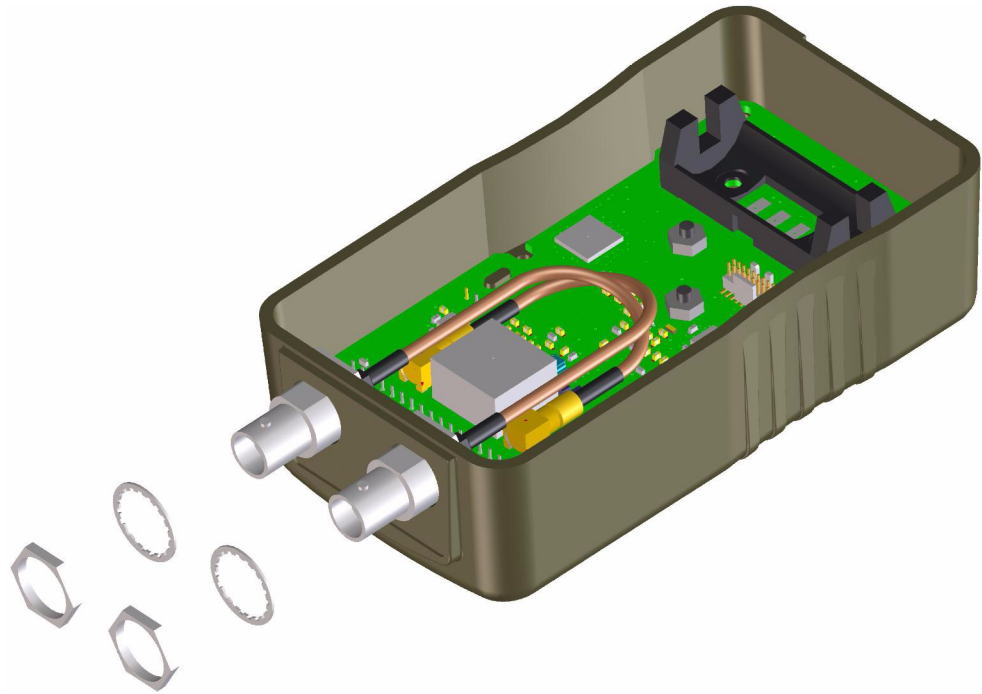

Figure 6 BNC Washer and Nut Location
- 2 Slide BNC connectors through the D-holes crossing the cables as shown in Figure 6.